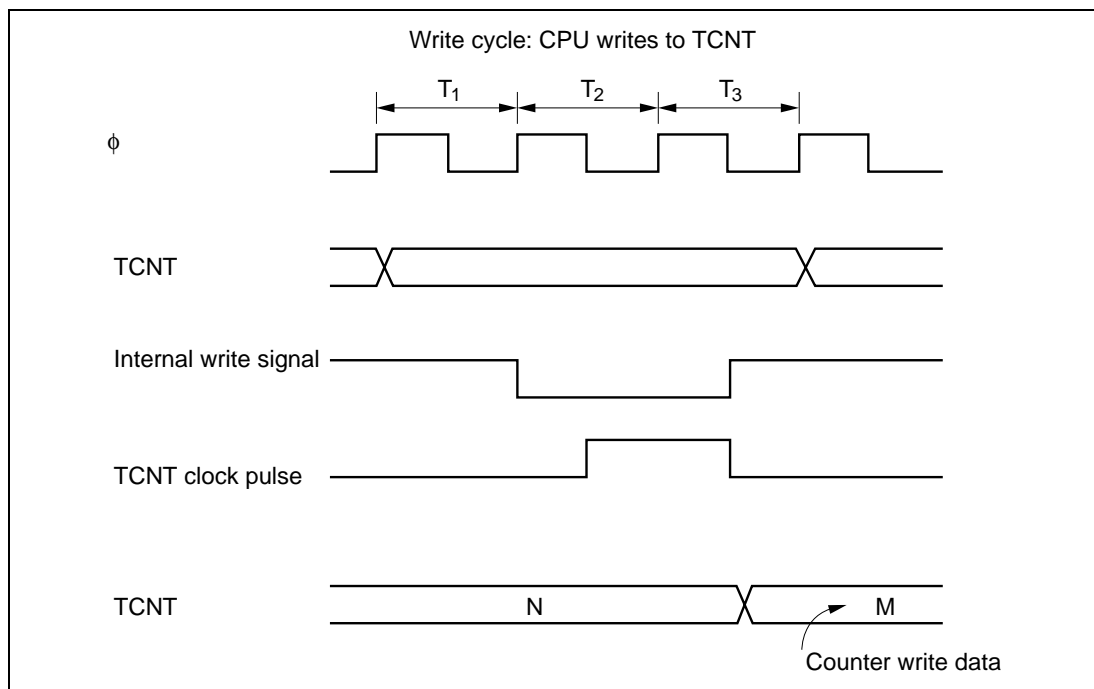

Figure 13-8 Contention between TCNT Write and Increment
(1) Contention between Timer Counter (TCNT) Write and Increment: If a timer counter clock pulse is generated during the T3 state of a write cycle to the timer counter, the write takes priority and the timer counter is not incremented. See figure 13-8.